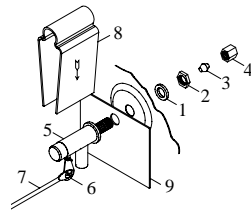

Fig. 5
- **Pump.** The pump must be secured to prevent it from tipping over. Secure the pump to the pump mounting bracket (item 16 in parts drawing). Remove a nut located under the head of the pump, place the pump bolt through the hole in the mounting bracket, and secure with the nut that was previously removed. Plug pump into receptacles. Retain pump cords to internal braces to prevent cords from dropping into water reservoirs or contacting moving components.
- **Float valve.** Refer to Fig. 5 to install float. Remove items 1, 2, 3, and 4. Insert float body (5) through hole in splash plate (9) and back post panel as shown. Install washer (1) and nut (2). Tighten to